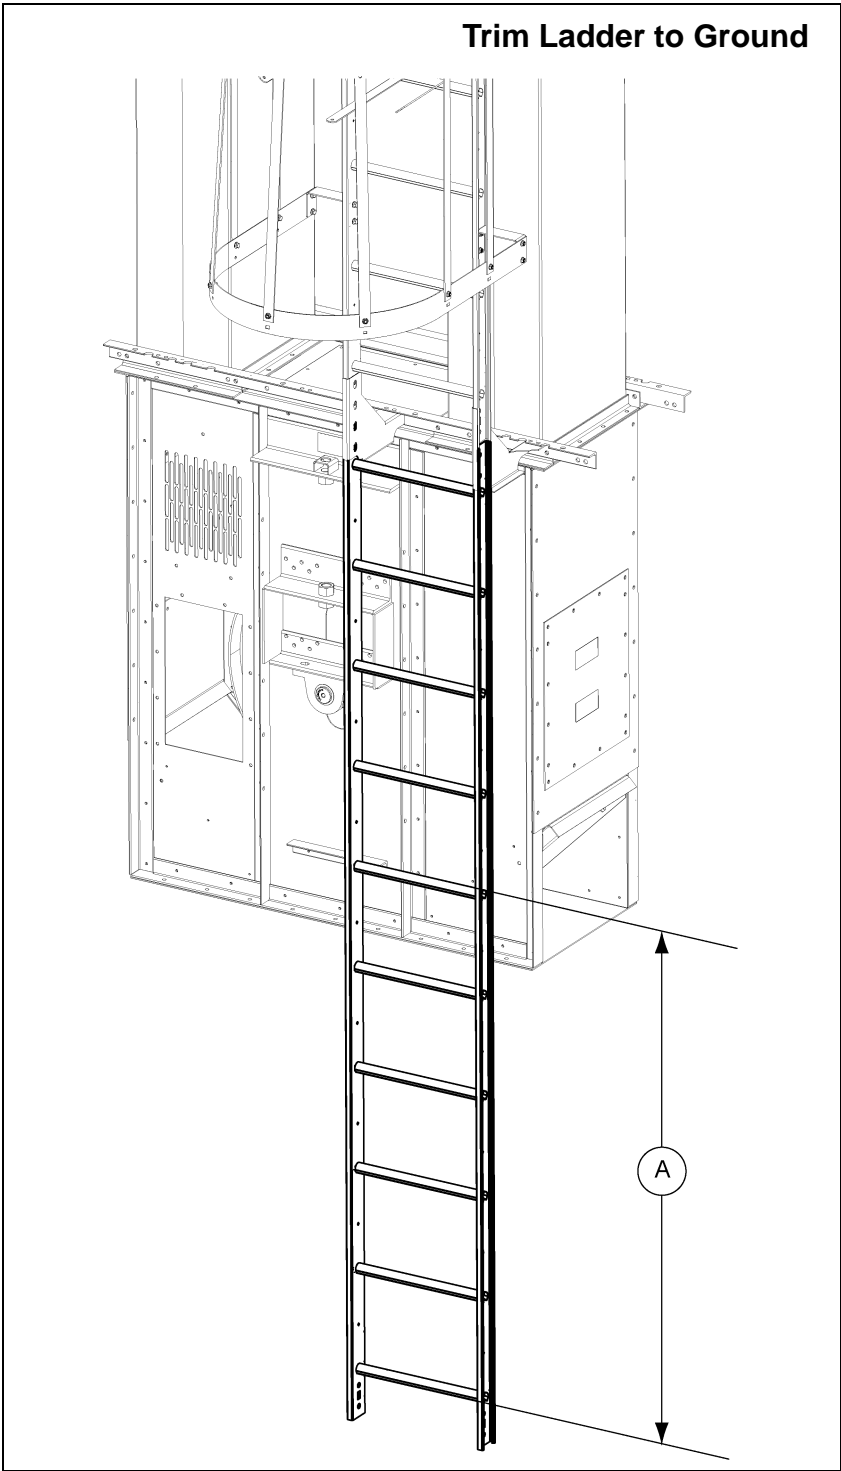

Figure 6E
- 1. Trim a 10' ladder section to sit so that the first ladder rung is 12" from the ground. (See Figure 6E.)